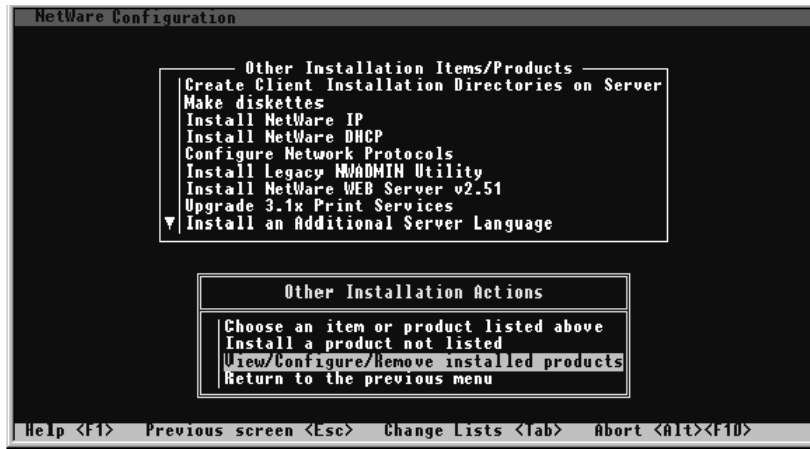

Figure 3-31. Install Products Screen
8. Press the **ENTER** key to return to the Install Products screen (Figure 3-31). You may confirm the drivers are installed by highlighting **View/Configure/Remove installed products** and then press the **ENTER** key.